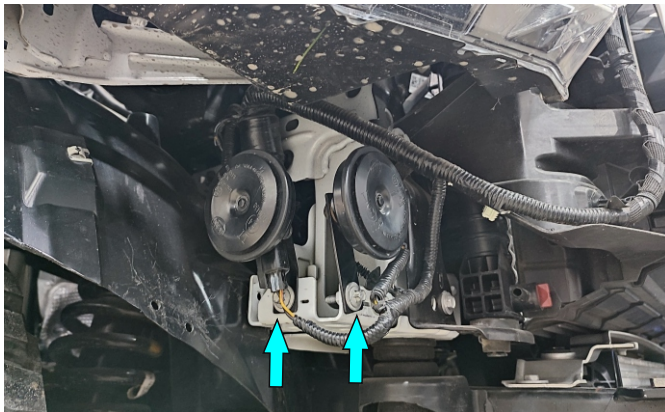

Fig.21
20. Install factory horn as shown in fig.21 and secure it using factory bolts.